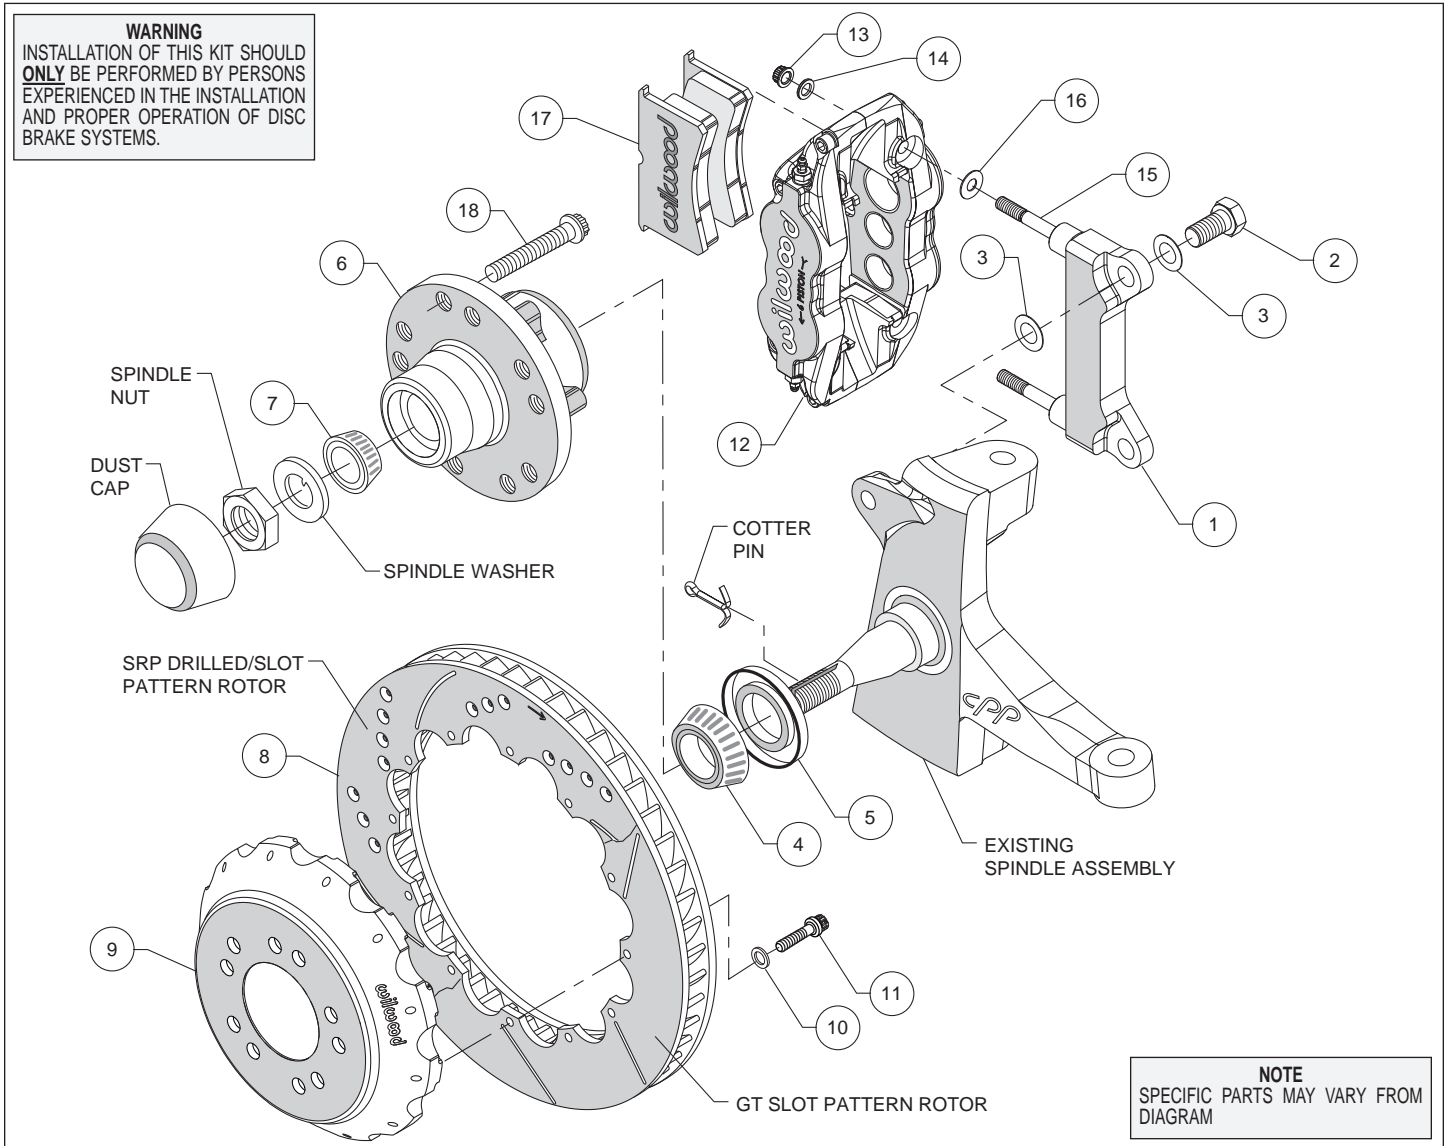
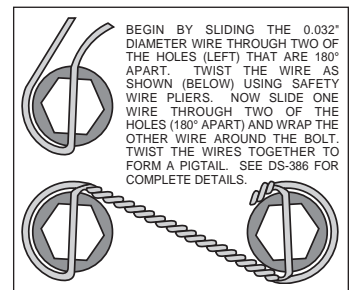

Figure 1. Typical Installation Configuration
Figure 3. Safety Wire Diagram
### Assembly Instructions (numbers in parenthesis refer to the parts list and Figure 1 on the preceding pages):
- The caliper mount bracket (1) should initially be installed with clean, dry threads on the mounting bolts. Orient the bracket, as shown in Figure 1, and Photo 1, and install using bolt (2) and washer (3). Initially place one .024" thick shim (3) on each bolt between the bracket and upright, Figure 1. Temporarily tighten the mounting bolts. **NOTE: The bracket must fit squarely against the mount bosses on the upright.** Inspect for interference from casting irregularities, machining ridges, burrs, etc. Later, after the caliper alignment has been checked, the mount bolts will be secured using red *Loctite*® 271.
- Install wheel studs (18) into the hub (6), Photo 2. Torque to 77 ft-lb. **NOTE: There are two five lug patterns in the hub (5 x 4.75 and 5 x 5.00).** Ensure the correct hub stud pattern is being used to fit the wheel application.
- Pack the large inner bearing cone (4) with high temperature disc brake bearing grease (available from your local auto parts store) and install into the backside of the hub (6), Photo 3.
- Install the grease seal (5) by pressing into the backside of the hub (6), flush with the end of the hub, Photo 4.
- Orient the rotor (8) and the hat (9) as shown in Figure 1 and Photo 5. Attach rotor to hat using bolts (11) and washers (10). Using an alternating sequence, apply red *Loctite*® 271 to the threads, and torque to 155 **in-lbs**. For an added measure of security, the bolts may be safety wired using standard 0.032 inch diameter stainless steel safety wire as shown in Figure 3.
- Pack the small outer bearing cone (7) with high temperature disc brake bearing grease and install into hub (6). Slide the hub assembly onto the spindle. Secure using spindle washer and spindle nut, Photo 6. Adjust bearings per OEM specifications. Install saved OEM nut lock (if any) and a new cotter pin.
- Press the dust cap into the hub (6).
- Slide the hat/rotor assembly (8/9) onto the hub (6). **NOTE: The hat must fit flush against the hub face or excessive rotor run out may result.**
- NOTE: This kit contains distinct right and left hand calipers that must be mounted in a specific direction, as described below.** Lubricate the caliper mounting studs (15) with lightweight oil. Initially place one .035" thick shim (16) on each stud as shown in Figure 1 and Photo 7. Mount the caliper (12) onto the bracket (1)
using lock nuts (13) and washers (14), Figure 1. Ensure that the caliper is mounted so that the largest pistons are at the rotor exit end of the caliper, in relation to the direction of rotor rotation. Temporarily tighten the lock nuts and view the rotor through the top opening of the caliper. The rotor should be centered in the caliper, Photo 8. If not, adjust by adding or subtracting shims (3) between the bracket and the upright. Always use the same amount of shims on each of the two mounting bolts.